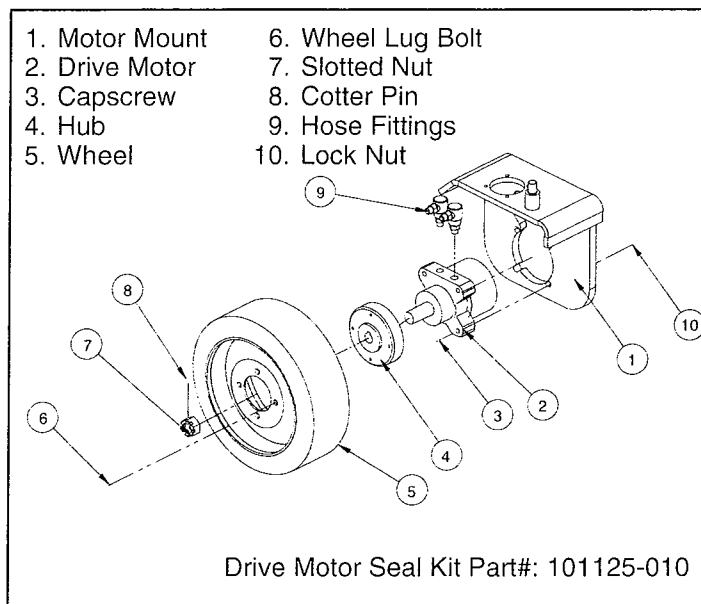

Figure 3-11: Hydraulic Drive Motor
3.9 Hydraulic Drive Motors and Hubs (Figure 3-11)